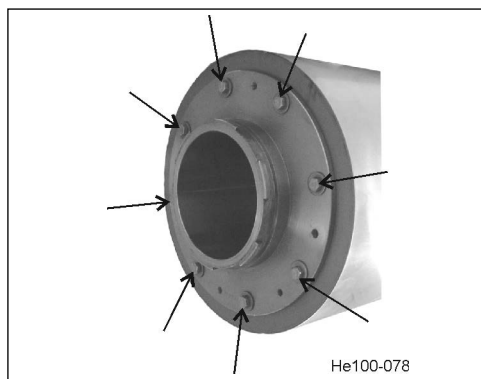

Figure 48 - Removal of Tube to Jacket Bolts
5. Remove the eight (8) 3/8-inch bolts that hold the removable tube to the jacket. See Figure 48.